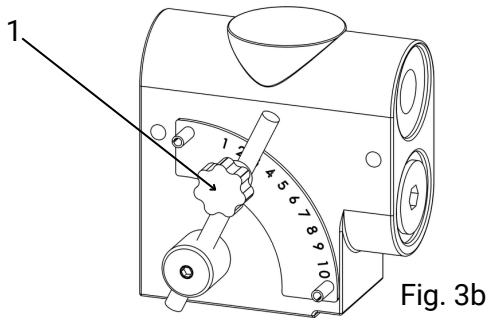

Fig. 3b
To adjust, loosen knob (1) and rotate to desired position. (fig. 3b)